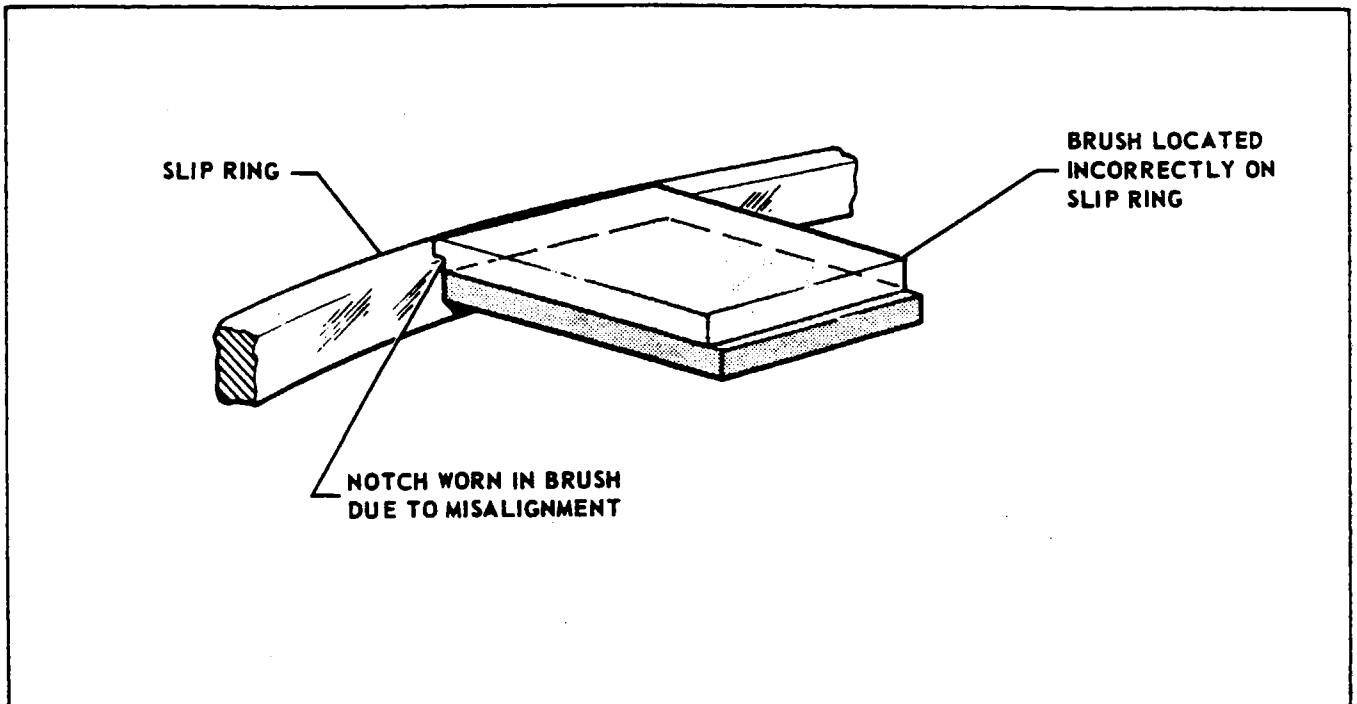

Figure 14-7. Centering of Brushes on Slip Rings
1. Test that each brush rides fully on its slip ring over 360°. Figure 14-7 shows the wear pattern if this condition is not corrected. If alignment is off, shim where brush block is mounted to bracket or adjust mounting bracket support arm.
14-15. ALIGNMENT OF NEW BRUSHES. Any time the brush block assembly is dismantled, the alignment at reinstallation must be checked as described in Paragraph 14-11 and Figure 14-7.